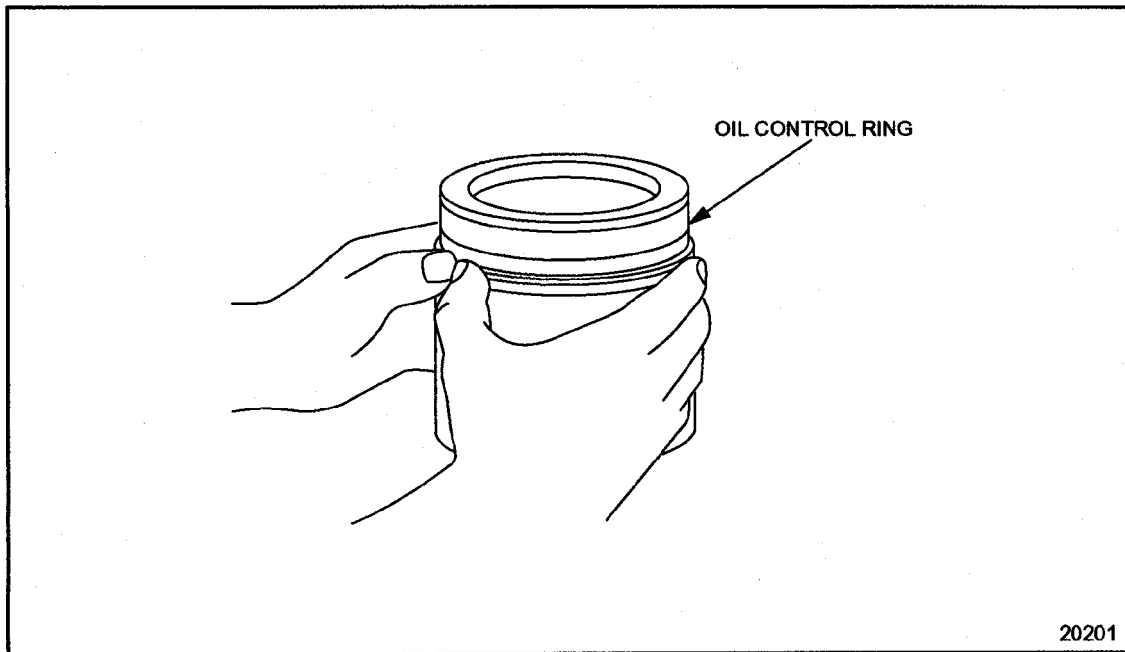

Figure 1-250 Oil Control Ring Installation (Diesel)
2. Install the oil control ring by hand. See Figure 1-250.